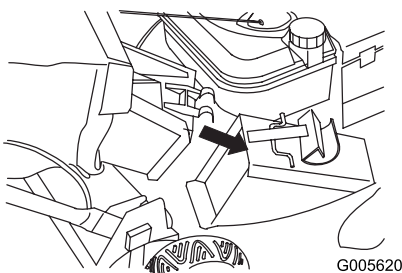

Figure 24
2. Fit the bag door opening over the discharge tunnel opening (Figure 24).